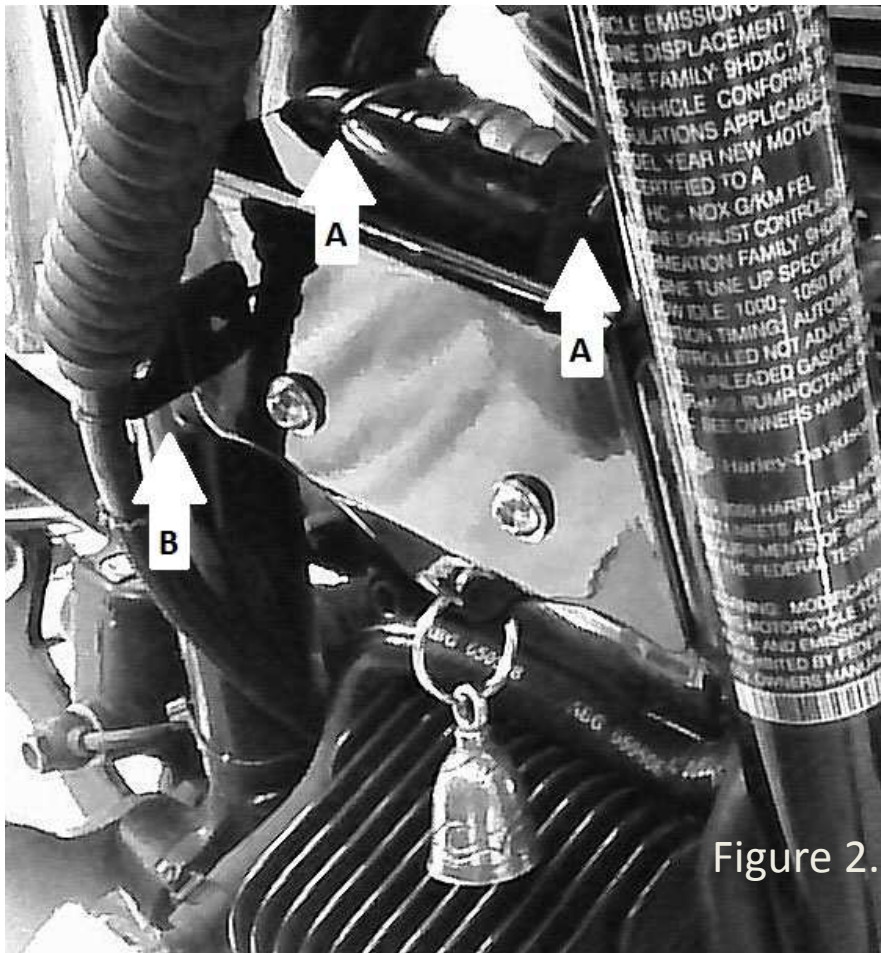

Figure 2.
1. Refer to Figures 2 & 3 for placement of zip ties. Depending on the style of cover you have chosen the Oxygen Sensor Wires will be secured by either one or two zip ties along the top edge of the cover.
2. If your cover is like Figure 2, place a zip tie through each hole in the top of the cover (Figure 2. A) and around the sensor wires. Carefully tighten the ties to hold the wires but not so tight as to cause damage.
4. Insert a plastic zip tie in the side tab hole (Figures 2. & 3. B) and around the clutch cable. Again tightening to secure cable but not so tight as to cause damage.